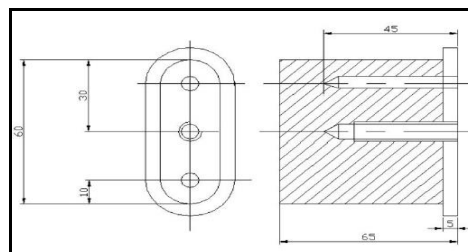

Figure 9.1. Progressive Die
- A progressive die is shown in Figure 9.1 while the piercing punch blanks out a portion of the metal in which two holes had been pierced at a previous station Thus after the stroke two holes will be punched each stroke of the press produces a required finished component using Figure 9.1